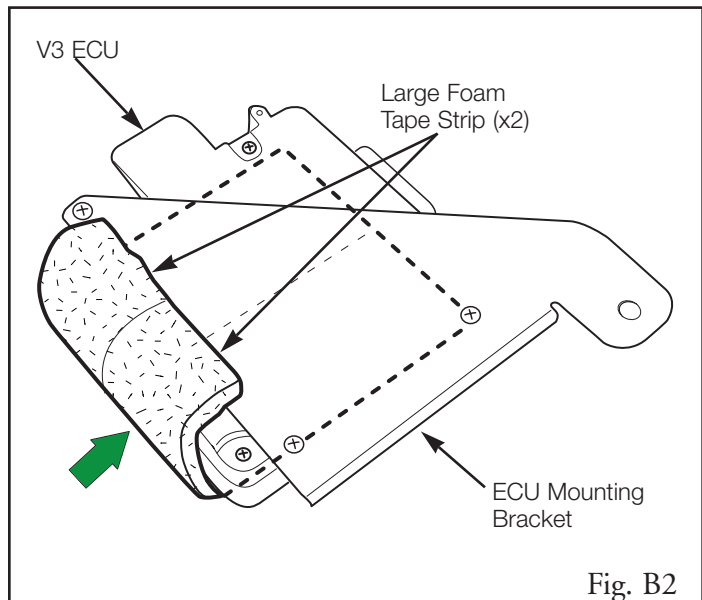

Fig. B2
- 2. Using two large strips of foam tape, cover the edge of the V3 ECU and mounting bracket opposite the ECU connectors as shown. (Fig. B2)